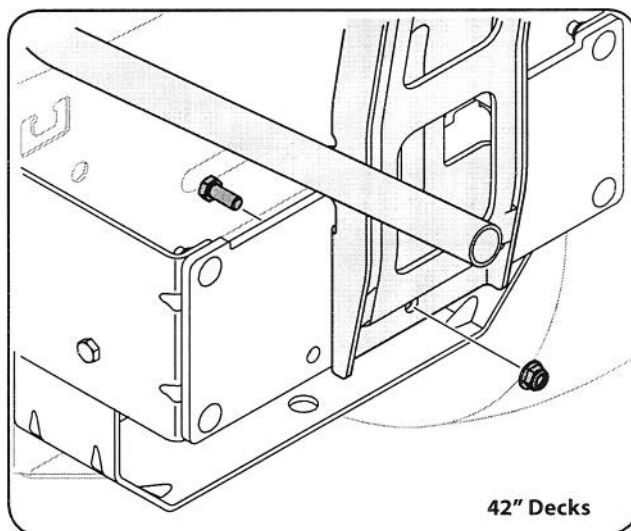
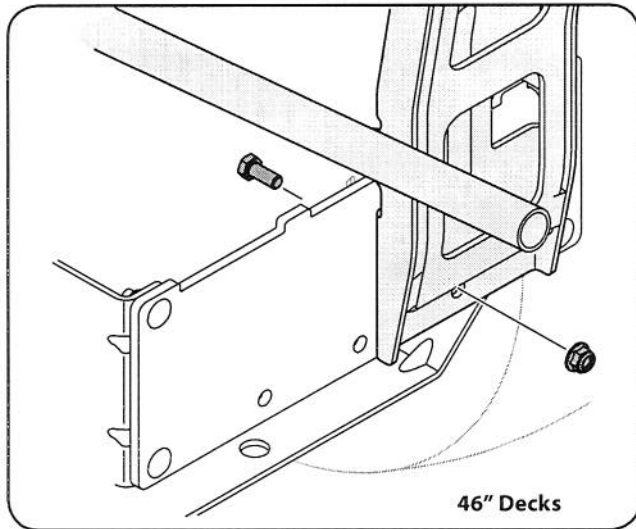

Figure 4-10
Figure 4-11
6. Secure the bag support assembly to the mounting assembly using a hex bolt (710-3008) and flange lock nut (712-04063) provided in hardware pack 689-00087. See Fig. 4-10.
**Note:** On tractors with 42" decks the support assembly mounts in the center hole as seen above in Fig. 4-10. On tractors with 46" decks, the support assembly mounts in the right hand hole as seen in Fig. 4-11.